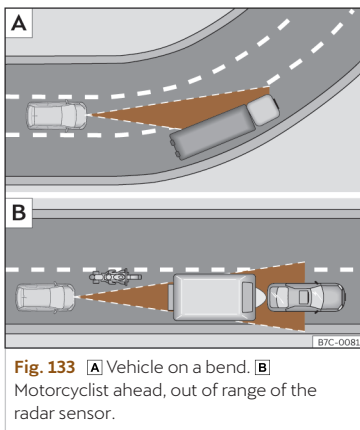

Fig. 133 **A** Vehicle on a bend. **B** Motorcyclist ahead, out of range of the radar sensor.
The ACC may not detect the vehicle in front on a curve, or may regulate the distance from vehicles in other lanes >>> **Fig. 133 A**.
- Vehicles that are not aligned while driving or that are outside the sensor's detection area, such as motorcycles >>> **Fig. 133 B**.